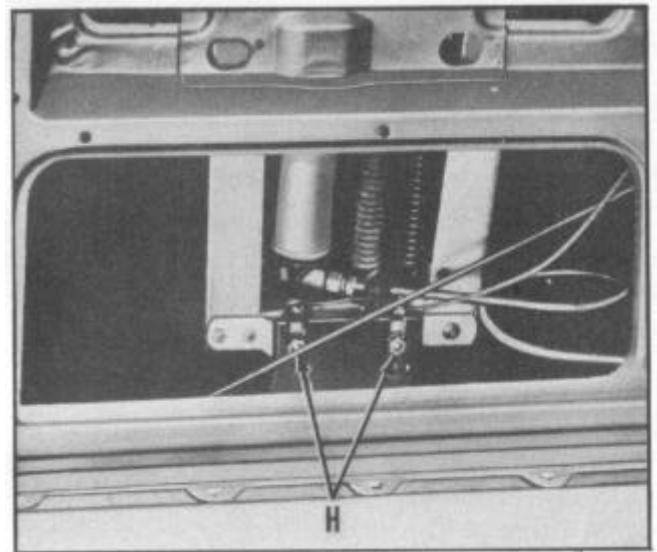

FIGURE 145
4. The hydraulic window regulator mounting is slotted to allow raising, lowering, or tilting forward or rearward of the regulator as required see (H), Figure 145.